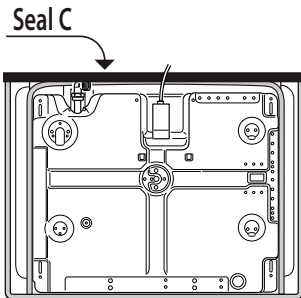
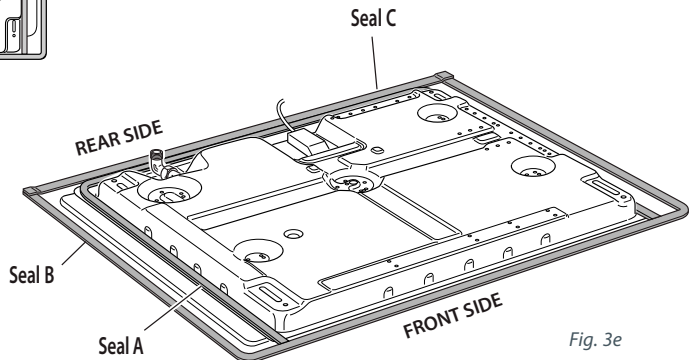

Fig. 3d
Fig. 3e
- 5 Spread the seal "C" along the rear edge of the cooktop (Fig. 3d), making sure that the beginning and the end overlap at the junctions with seal "B" (Fig. 3e).